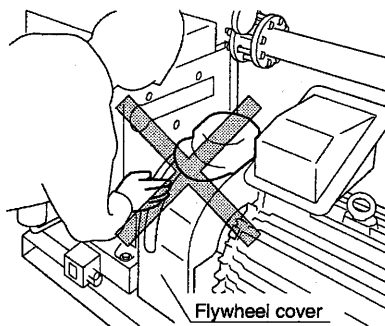

Fig. 1
- * *Do not put the hand or a part of the body in the flywheel cover while the motor is rotating. Do not put any substance on the flywheel cover. (Fig. 1)*